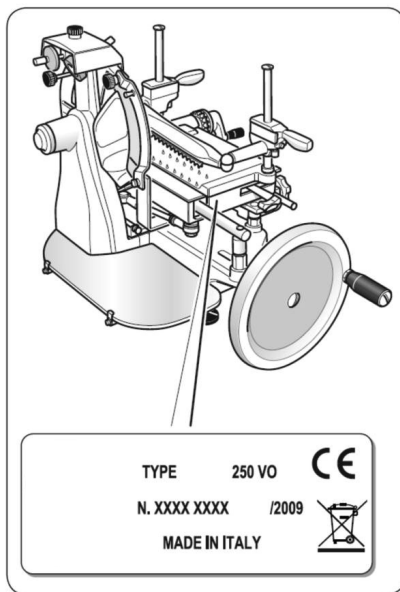

Fig. 1 – Rating plate
- The rating plate is positioned on the base of the slicer as shown in fig.1.